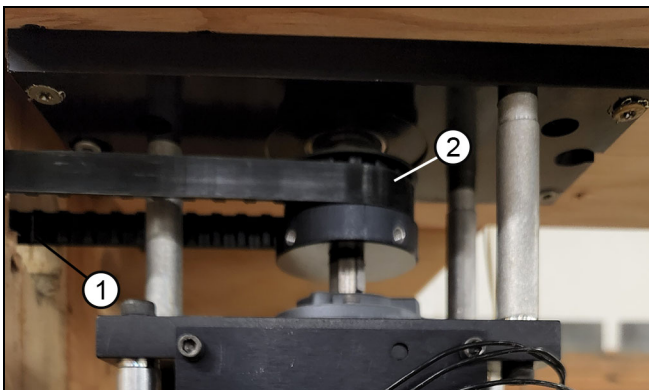

Figure 45
5. Thread the belt through the pass through corner key and around motor drive sprocket. Continue to thread the belt back over the panel tooth side up. See Figure 45